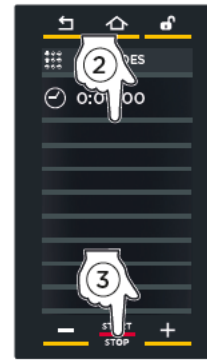

fig. M9
- 3 Confirm by pressing the "START/STOP" button (fig. M9).